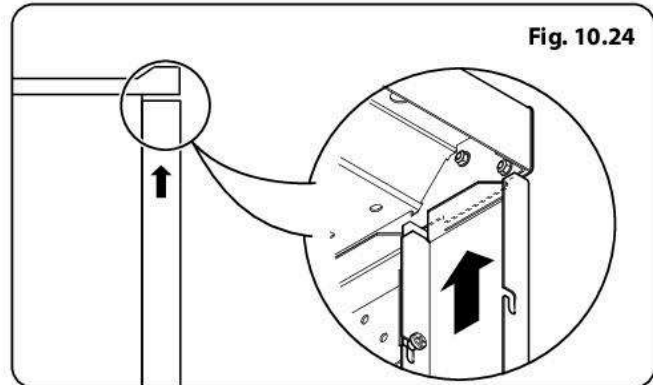

Fig. 10.24
3. Push the side extension up so that the tab in the bottom of the flue extension fits into the slot at the top (**Fig. 10.24**).